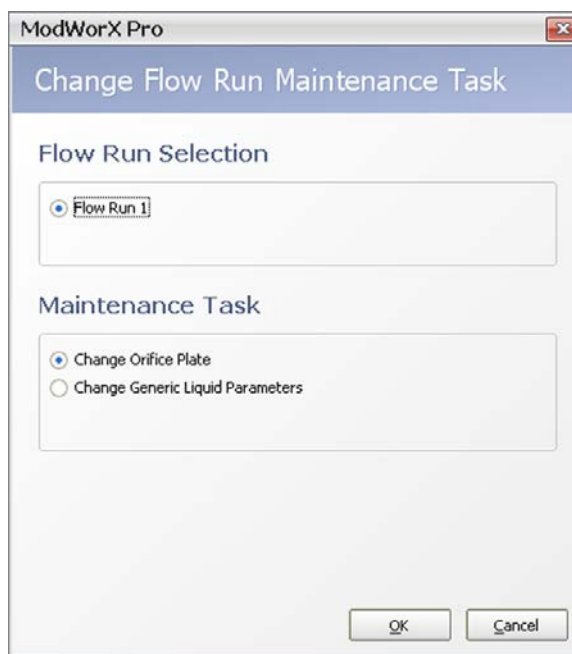

Figure 9.15
1. If Change Generic Liquid Parameters is not displayed in the Maintenance Task field at the top of the Maintain Flow Run screen, click on **Change Task**. The Change Flow Run Maintenance Task dialog will appear (Figure 9.15).